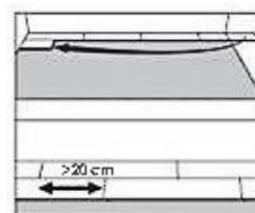

Figure 2
- Position the first plank of the second row by angling it up slightly, pushing forward and interlocking the side tongue (**Figure 2**). Slide the plank to the left to align the edges of the end joint.